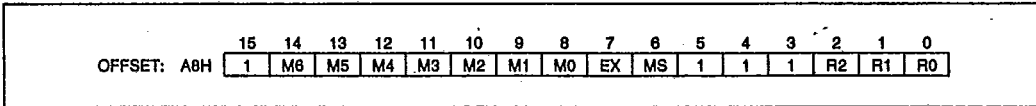

Figure 16. MPCS Register
The mode of operation of the peripheral chip selects is defined by the MPCS register (which is also used to set the size of the mid-range memory chip-select block, see Figure 16). This register is located at offset A8H in the internal control block. Bit 7 is used to select the function of PCS5 and PCS6, while bit 6 is used to select whether the peripheral chip selects are mapped into memory or I/O space. Table 11 describes the programming of these bits. After reset, the contents of both the MPCS and the PACS registers are undefined, however none of the PCS lines will be active until both of the MPCS and PACS registers are accessed.
words), a 20-bit destination pointer (2 words), a 16-bit Transfer Counter, and a 16-bit Control Word. The format of the DMA Control Blocks is shown in Table 13. The Transfer Count Register (TC) specifies the number of DMA transfers to be performed. Up to 64K byte or word transfers can be performed with automatic termination. The Control Word defines the channel's operation (see Figure 16). All registers may be modified or altered during any DMA activity. Any changes made to these registers will be reflected immediately in DMA operation.